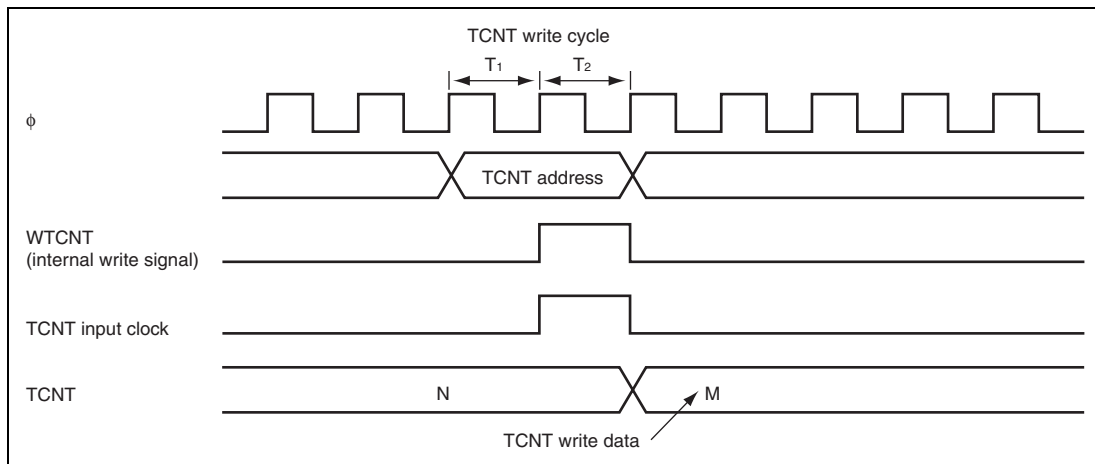

Figure 12.53 Contention between TCNT Write and Increment Operations
2. Contention between TCNT Write and Increment Operations: If incrementation is done in T_2 state of a TCNT write cycle, TCNT writing has priority. Figure 12.53 shows the timing in this case.